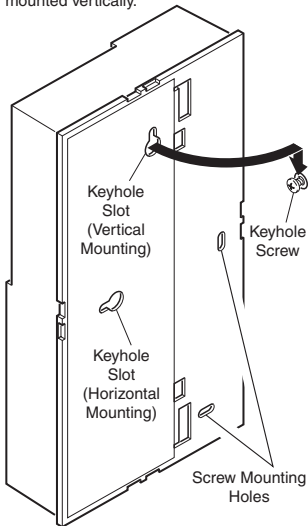

Figure 5 - Back of Chime
- Mount keyhole screw to wall leaving about 1/8" (3 mm) of the screw threads exposed (see Figure 5).